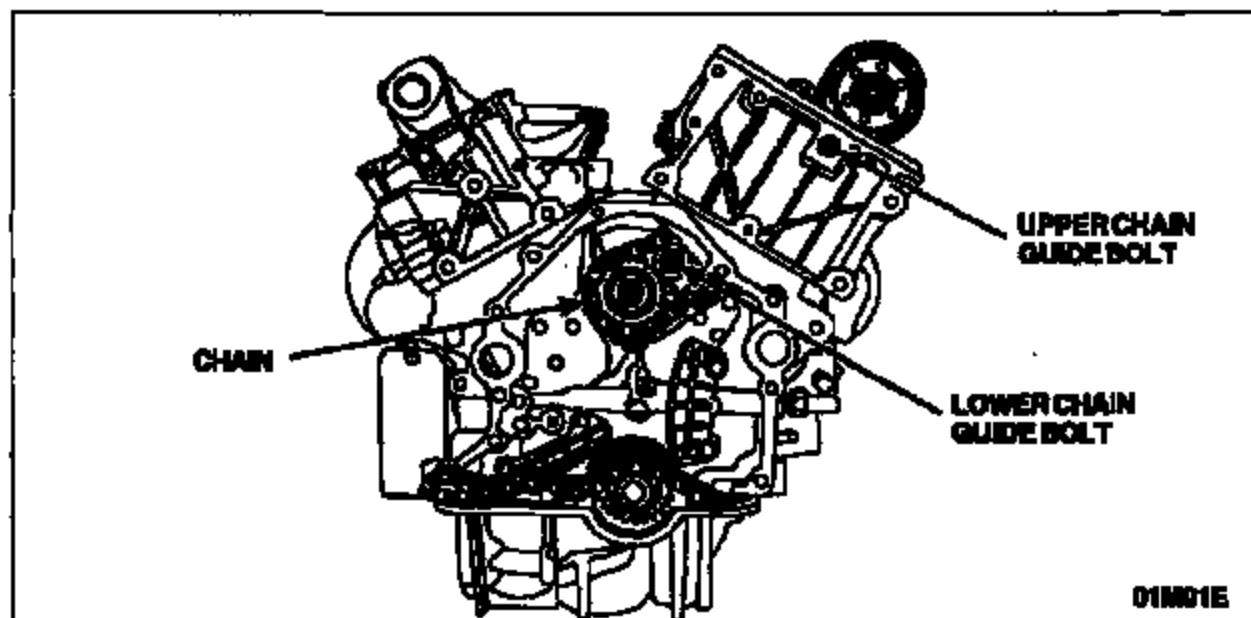

FIGURE 4
12. Remove the camshaft drive cassette. See Figure 4.